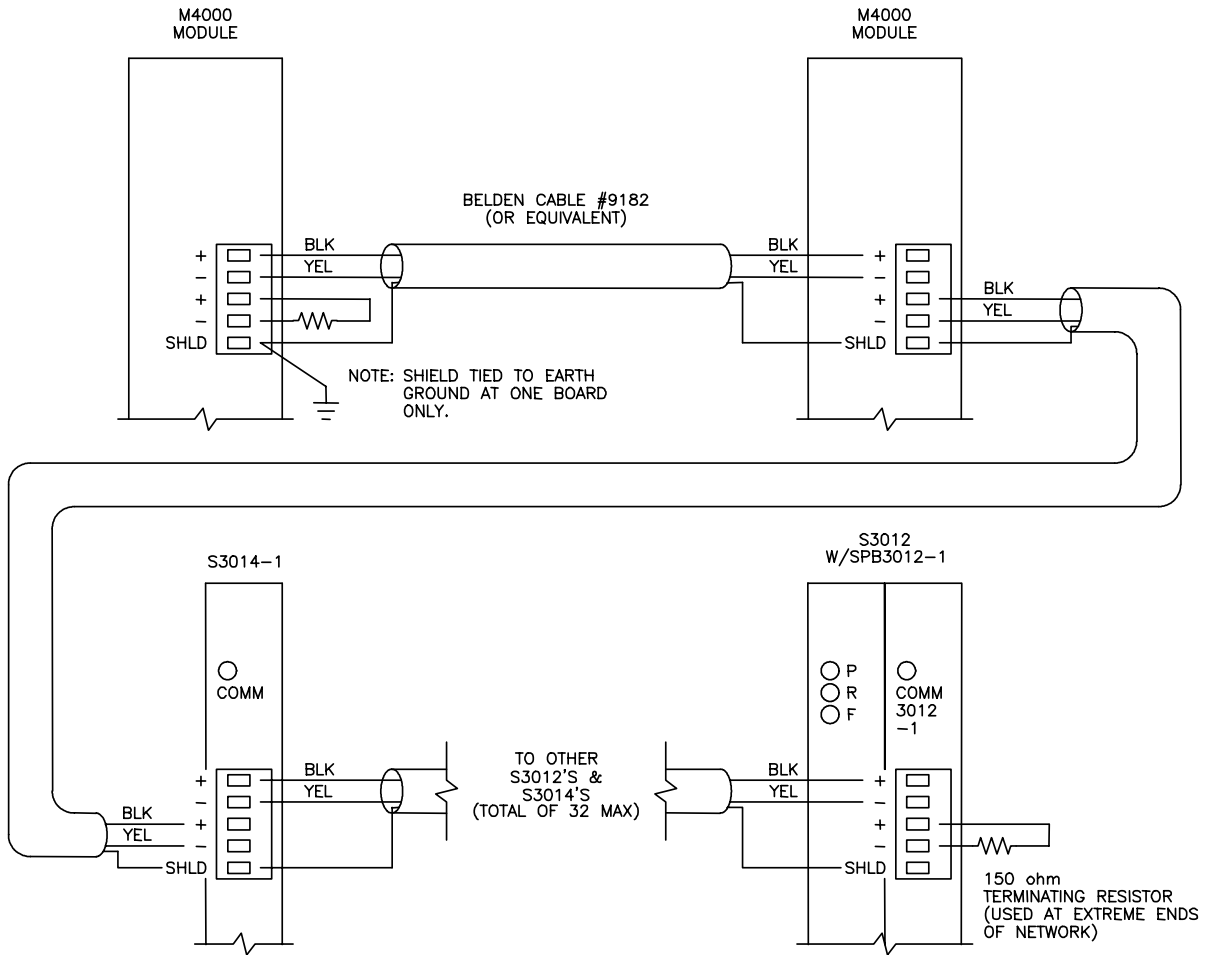

Figure 9.5 – Typical Network Wiring
Refer to figure 9.5 for a typical schematic of the network and for the pin outs of the network interface connectors. When wiring the network, the following rules must be followed:
- 5) The two extreme ends of the network should be terminated with 150 ohm resistors as shown in figure 9.5.